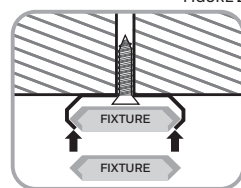

FIGURE 2
7. Place the provided 1/2in. wood screws in the metal mounting clips and drive the screws into the pre-drilled holes in the mounting surface. Use only a #1 Phillips head screwdriver when screwing in brackets to avoid stripping the mounting holes (do not use power tools). Repeat for all mounting clips (see Figure 2).
5. Place the provided 1/2in. wood screws in the metal mounting clips and drive the screws into the pre-drilled holes in the mounting surface. Use only a #1 Phillips head screwdriver when screwing in brackets to avoid stripping the mounting holes (do not use power tools)(see Figure 2).
7. Snap the Bright Strip into the mounting clips and ensure it is firmly held in place (see Figure 2). Make sure the male connection point is facing the direction of where the LED Driver will be mounted.